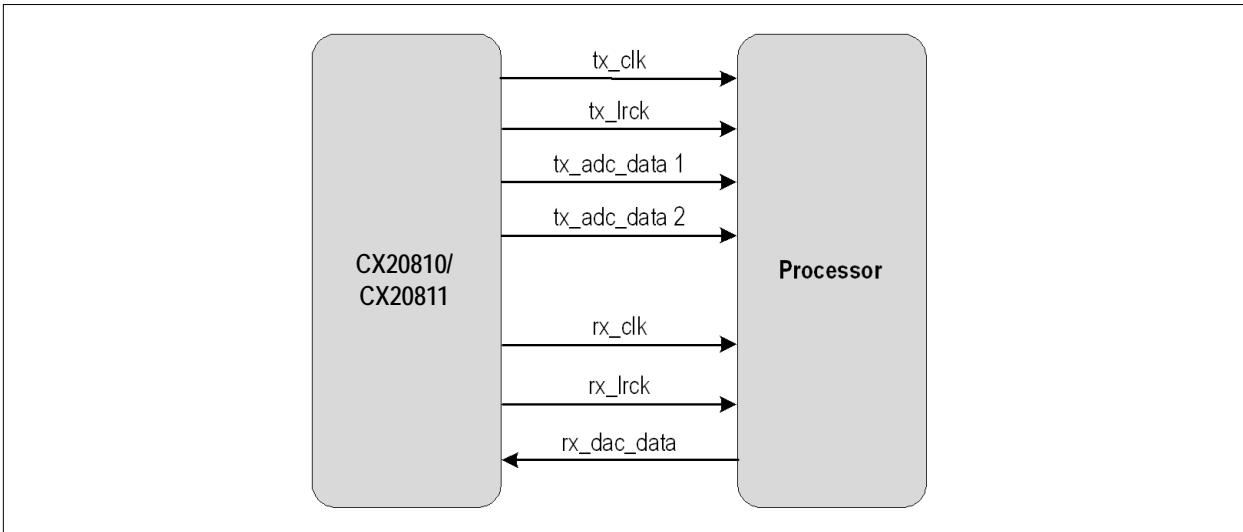

Figure 84: Seven-Wire Master Mode
- Figure 84 on page 141 provides the seven-wire master mode